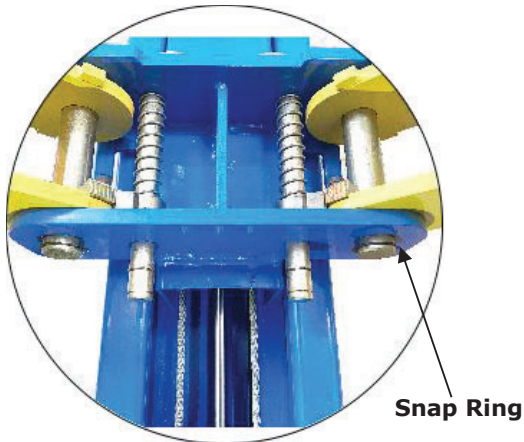

Fig. 37
1. Install the lifting arms (See Fig. 37).